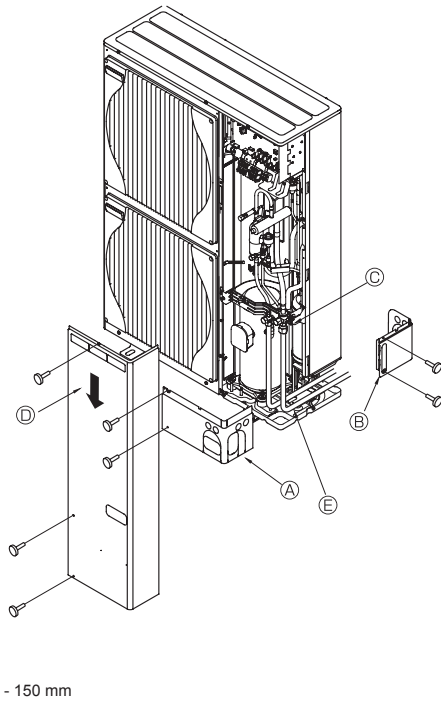

Fig. 5-8
5.6. Refrigerant piping (Fig. 5-8)